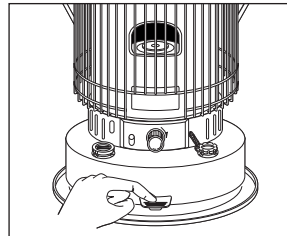

Fig.13
- ! 'Push the ignition lever(Fig. 13) to bring the glowing igniter into contact with the wick.